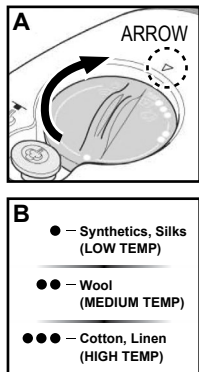

FIGURE 3
2. Turn Temperature Control Dial clockwise so that small arrow ( $\Delta$ ) on Hand Grip (FIGURE 3-A) points to one of three heat settings on Dial (FIGURE 3-B). Heating Indicator Light will illuminate.